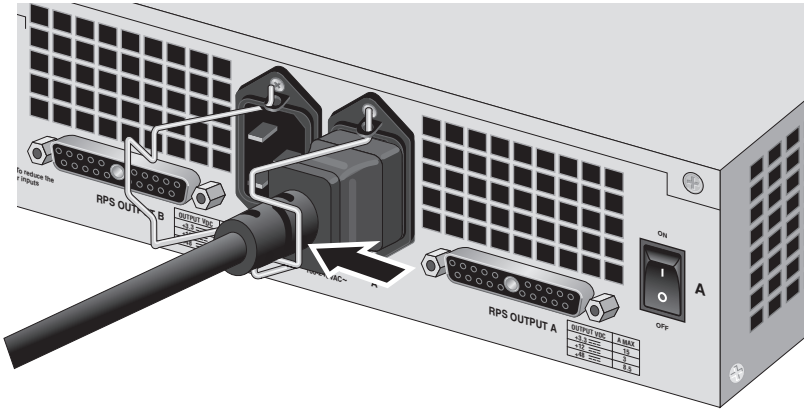

Figure 10. Securing the Power Cord with the Retaining Clip
- Slide over the retaining clip to secure the power cord (see Figure 10).